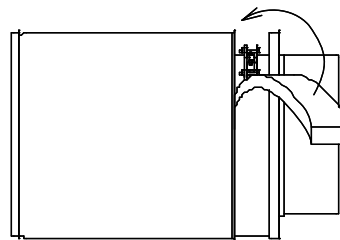

Figure 56 - Adjustable length, INSTALLATION STEP E
- For proper installation, the adjustable length must have adequate overlap and sufficient allowance for thermal expansion. (see **Figure 56** - Adjustable length (LA), and **table 15**).
- Fill the gap between the inner flue and outer casing with the supplied insulation band. See **Figure 56** (DIS only).